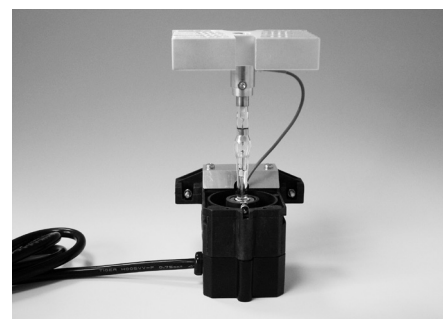

Fig. 97: Lamp mount for Hg 100 W
- High-pressure mercury burner Hg 100 W (Fig. 97 p. 37) 11500138